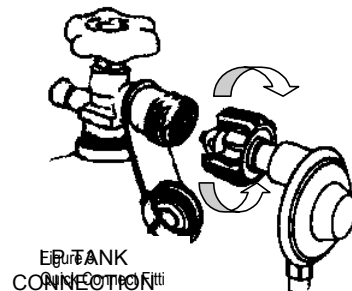

FIGURE 13
- 3- Turn the fitting clock-wise until snug. DO NOT OVER TIGHTEN! (SEE FIGURE 13)